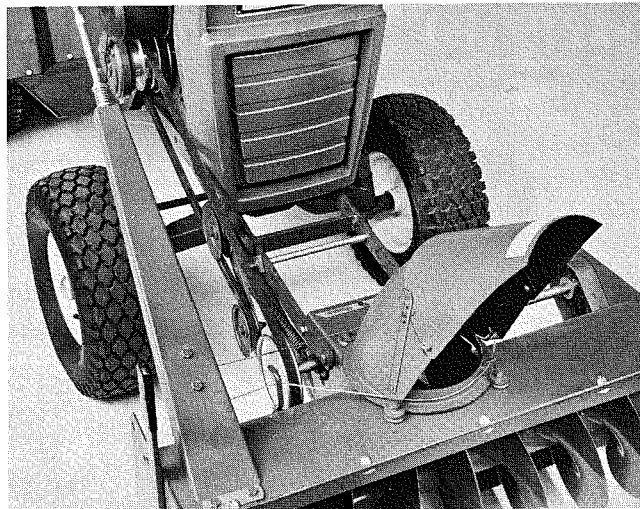

Figure 3
7. Remove the $8\frac{1}{2}$ inch long rod and spacer from the mounting frame. Roll the unit up to the tractor. Align the mounting frame so that the arms of the mounting frame straddle the tractor frame. See Fig. 3. Roll the snow thrower back into the tractor to allow the belt to be placed over the attachment and into the belt groove.
Roll the snow thrower forward till the holes in the mounting arms align with the first set of holes of the tractor frame. Turn wheels all the way to the left. Insert the rod and spacer through the mounting frame and tractor frame. Hold in place with the $\frac{3}{8}$ -16 nylok nut. See Fig. 3.
8. Wrap the belt around the idler pulleys as shown in Fig. 3. **NOTE: Adjust blower drive pulley in or out to align with the idler pulleys, tighten set screws.**